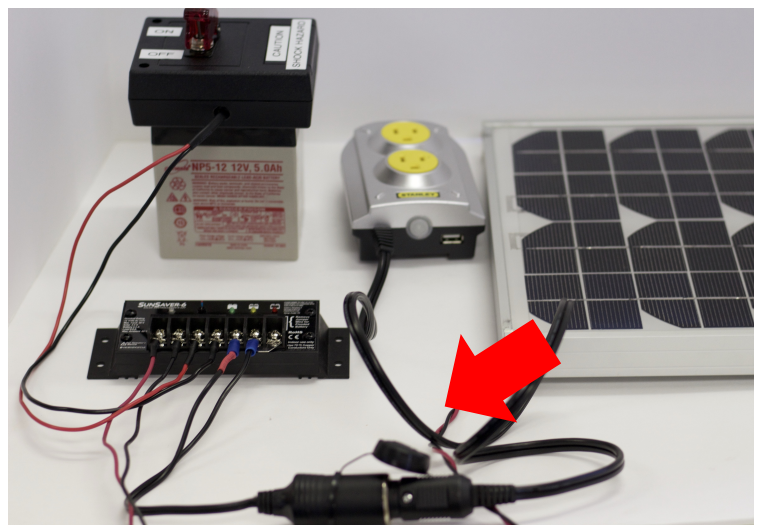

Figure 7
8) Locate the Inverter (part E). Connect the Inverter (male) to the Auxiliary Adapter (female) as noted in figure 7.